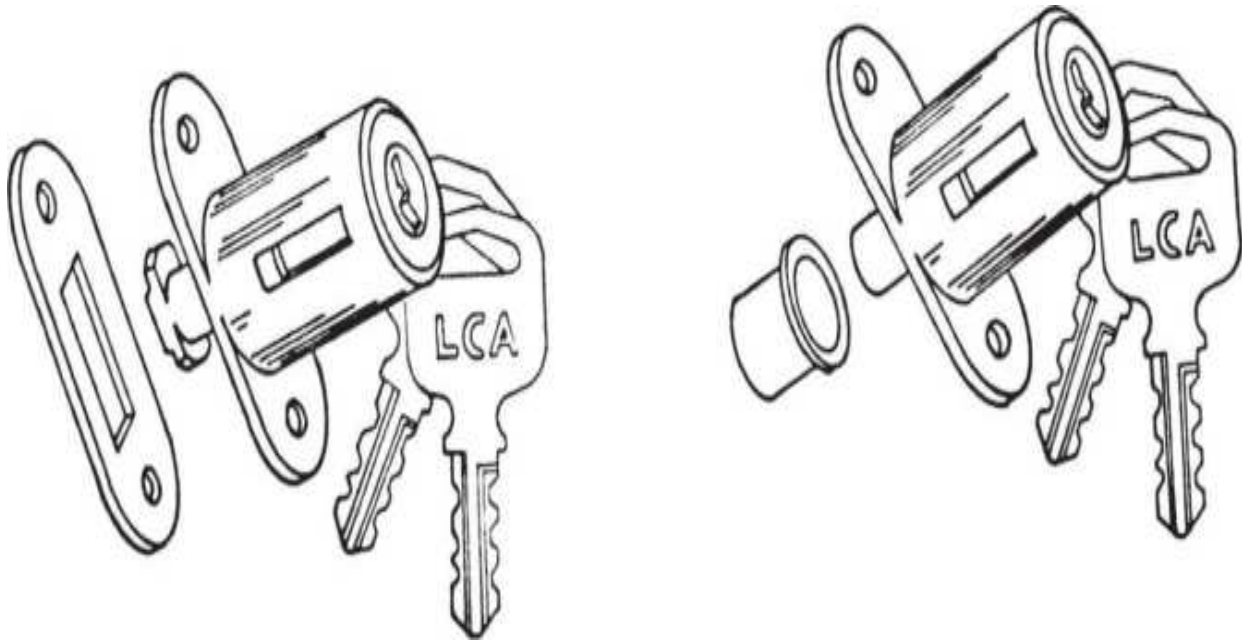

**Figure 5.16** Sliding door and showcase locks. (*Lock Corporation* )
***Push locks.*** The LCA push lock for sliding doors and showcases uses the same patented torsion tumblers and solid brass cylinder plug and it has a stainless steel cap (Fig. 5.16 ). Three hundred key changes are standard, but unlimited changes are available.